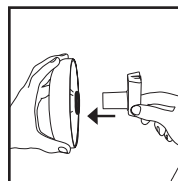

FIGURE 8
11. Mount wheel onto axle with smooth face of wheel outward. **FIGURE 8.**